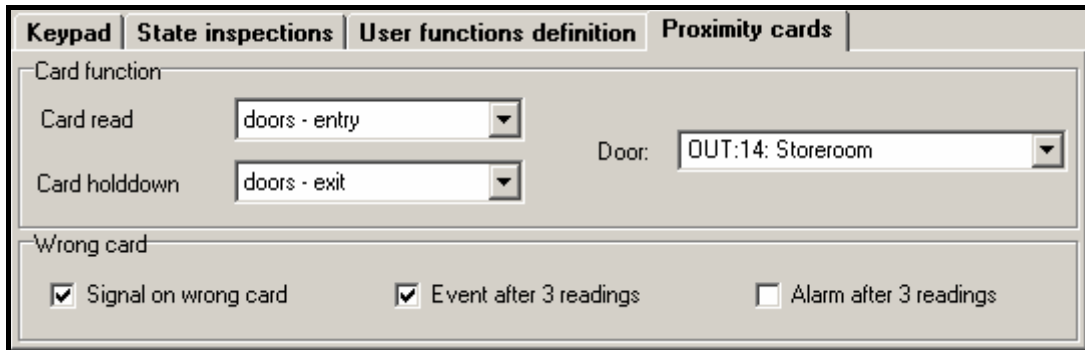

Fig. 17. Handling proximity cards.
- 101. CARD READ – EXPANDER** – the output signals that the card has been read in indicated modules/keypads. It can be used to perform the function of access control and door control from the keypad. To this effect, indicate the keypad in which reading in the card will activate the output, and the partitions from which the users will be able to open the doors. In the keypad settings, you should indicate the control panel output as the door (see Fig. 17). It is necessary to define the door opening function for presenting/holding the card, and select whether this event is to be logged as an entry or an exit.